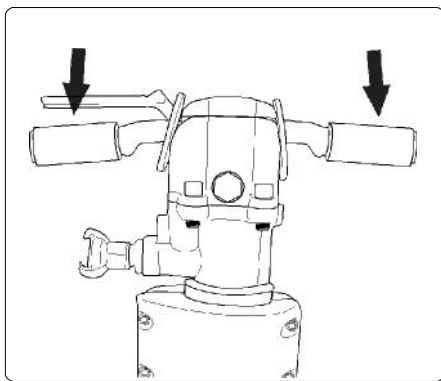
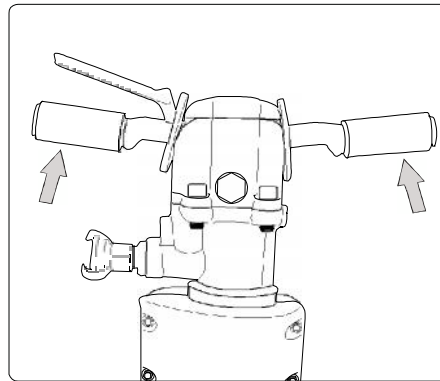

FIG1
FIG2
1. With a breaker fitted with a chisel (or any suitable accessory) gripped in a vice or sitting on a chisel (accessory) embedded in the ground, but not connected to an air supply, push down both handles as far as they will go (FIG1) and release them (FIG2)